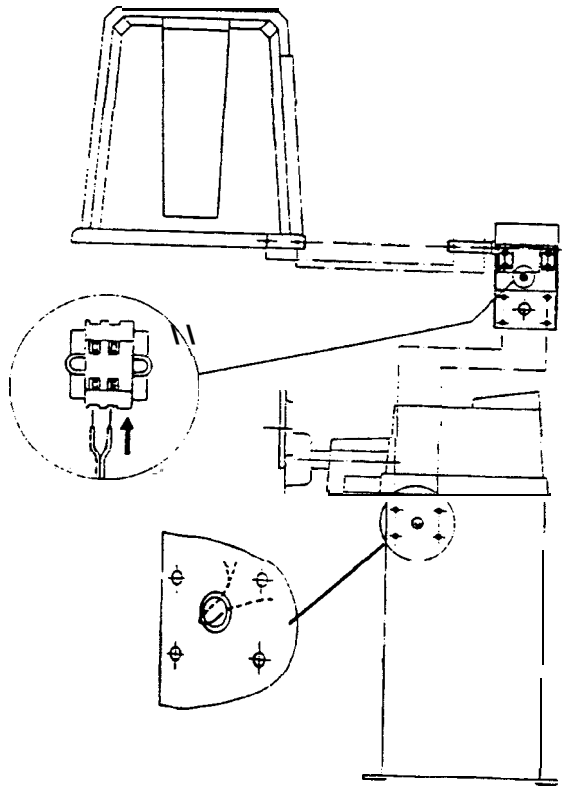

Figure 1 Hood Mounting
2. Using figure 1 **as** a guide mount the hood bracket to the **balancer** with the bolts and washers provided.